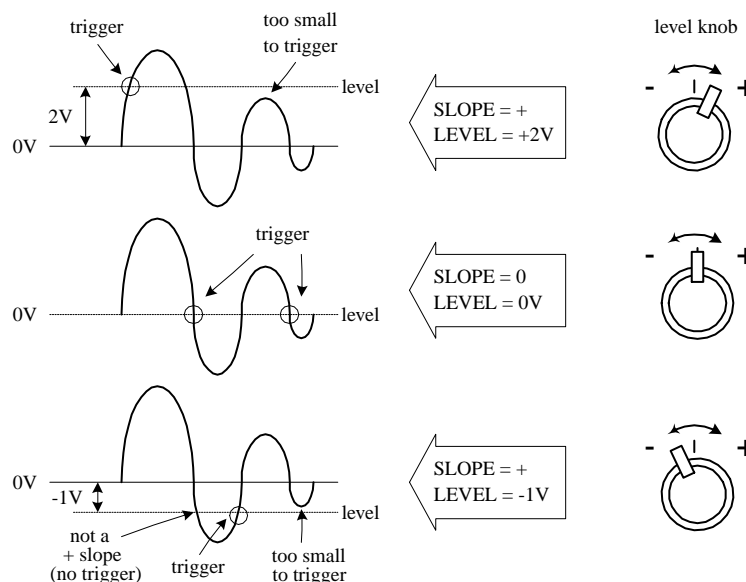

FIGURE 14.31
NORM. Used for triggered sweep operation. The triggering threshold is adjustable by means of the triggering LEVEL control. No sweep is generated in the absence of the triggering signal or if the LEVEL control is set in such a way as to allow the threshold to exceed the amplitude of the triggering signal (see Fig. 14.31).
- **LEVEL knob.** Used to trigger a sweep. LEVEL sets the point when scope will trigger based on the amplitude of the applied signal. The level can be shifted up or down. The READY/TRIGGER indicator turns on when the sweep is triggered, indicating that the triggering LEVEL control is within the proper range (see Fig. 14.31).